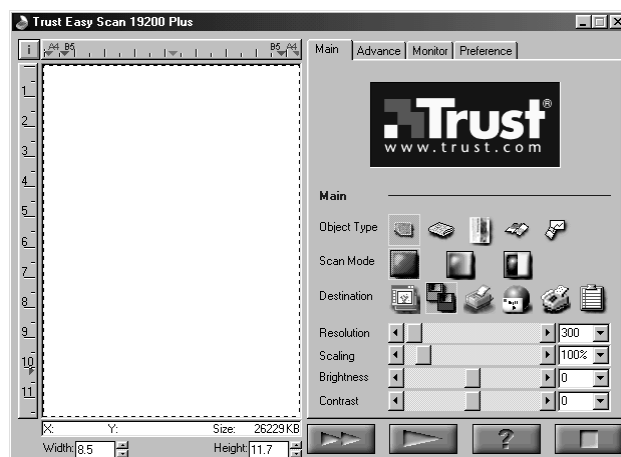
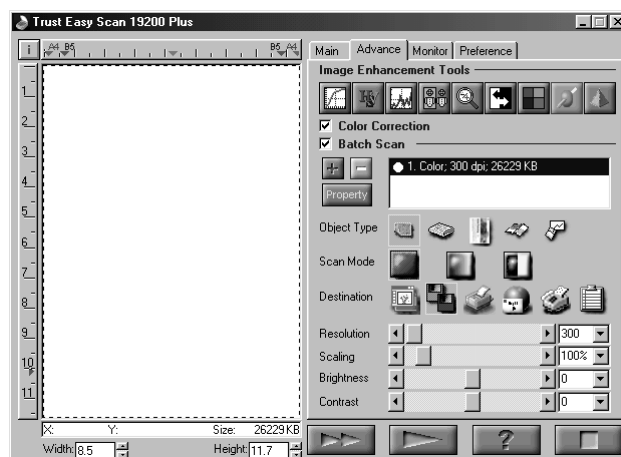
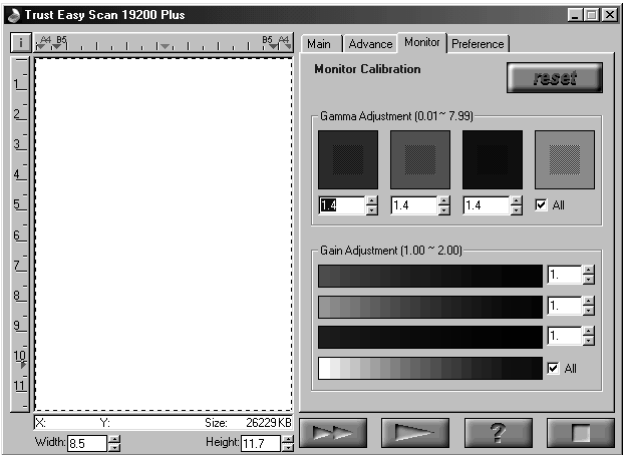
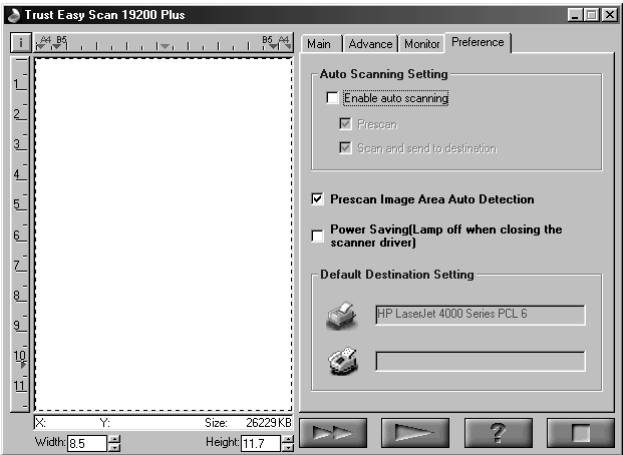

Figure 20: TWAIN dialog box main menu
Figure 21: Advanced TWAIN menu
Figure 22: Monitor calibration
Figure 23: Preferences
Go to 'Start - Programs - Trust Easy Scan 19200 Plus' and select 'Trust Easy Scan 19200 Plus'. The TWAIN dialog box is displayed (Figure 20).
In the TWAIN dialog box (Figure 20) click on the 'Advanced' tab. A screen as in Figure 21 is displayed.
In the TWAIN dialog box (Figure 20), click on the 'Monitor' tab. A screen as in Figure 22 is displayed. In this window you can alter the colour settings of the scanned image. When the scanned image is printed, the colours are reproduced exactly as shown in this window.
In the TWAIN dialog box (Figure 20), click on the 'Preferences' tab. A screen as in Figure 23 is displayed.
2. Using the mouse, click on the 'Prescan' button (Figure 20).
4. Click on 'OK'. The TWAIN dialog box is displayed (Figure 20).
3. Click on 'File', select 'Open Special', and then select 'Scan Photo...' (Figure 24). The TWAIN dialog box is displayed (Figure20).